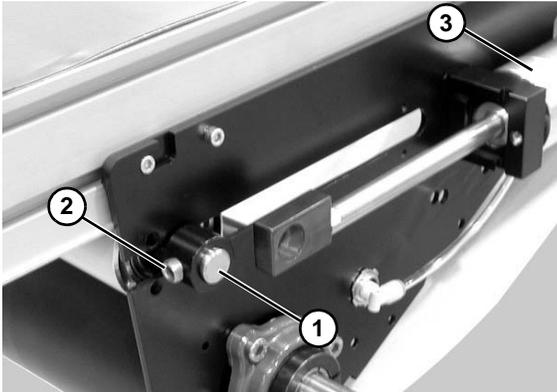

Figure 65
5. Push shaft (Figure 65, item 1) through block (Figure 65, item 2), and slide block towards air cylinder (Figure 65, item 3).